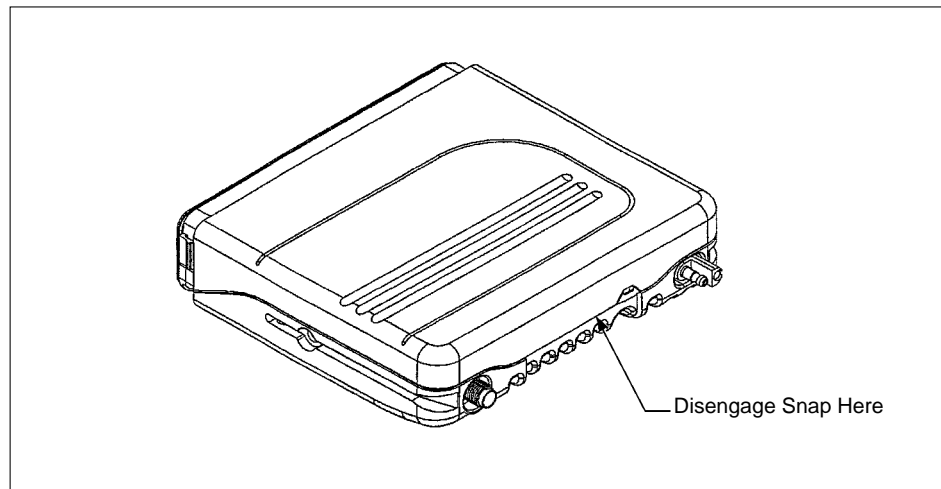

Figure 5-2 Removing the Top Cover - Low Power Models
1. Pry the cover free from the chassis by inserting a small flat-blade screwdriver or like instrument into the area shown in Figure 5-2 and rotating the handle of the screwdriver over the top of the radio. This will disengage the snap between the cover and chassis. Rotate the cover away from the chassis and pull off. (Go to “Remove the Cavity Shield” paragraph, page 5-3).